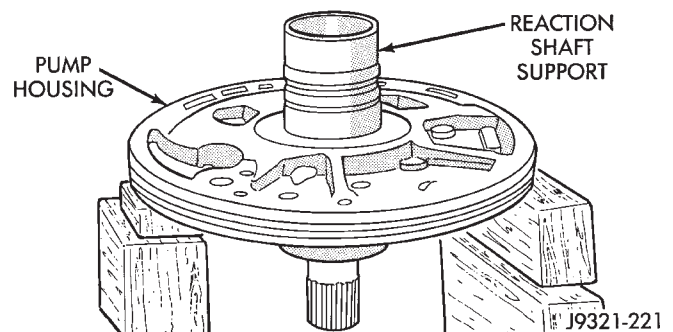

Fig. 50 Assembling Reaction Shaft Support And Pump Housing
(8) Install reaction shaft support on pump housing (Fig. 50).
(9) Align reaction support on pump housing. Use alignment marks made at disassembly. Or, rotate support until bolt holes in support and pump housing are all aligned (holes are offset for one-way fit).